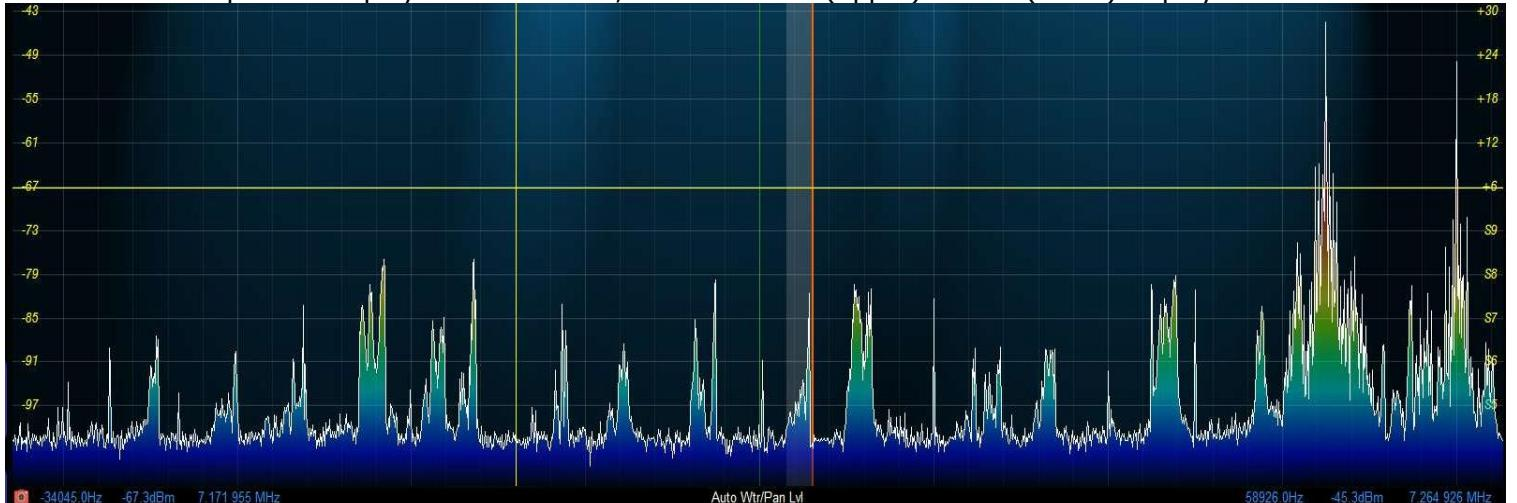

Figure 67: Cursor and Peak Position Information
There are two sets of data side by side just below the graphical display that are used to communicate cursor (left) and peak signal (right) information to the user. For each the data shown equals Offset from VFO, Signal Level and Frequency. For example, in Figure 67 below, the peak signal is offset -28742.6 Hz from the VFO frequency (14.255 MHz). The peak signal level is -92.5 dBm, and the peak signal is at 14.226257 MHz. Note that these values are fairly low resolution due to the discrete nature of the pixel display. When RX1 and RX2 displays are both showing, the cursor position read-out relates to the respective display the cursor is in, either the RX1 (upper) or RX2 (lower) display.
- In the frequency domain displays (Spectrum, Panadapter, Histogram, Waterfall), right clicking the mouse cycles through yellow crosshairs, red crosshairs (only if **SPLT** or **MultiRX** is enabled), or no crosshairs. The crosshairs span the width and height of the display (yellow cross hairs are shown in Figure 67 above).
- Together with the **AVG** control they allow easy measurement of signals on the display. For example, in Figure 67 the cursor position is offset -10219.9 Hz from the VFO frequency and is at 14.244780 MHz. The horizontal line of the crosshairs is at -96.0 dBm.
(10) MultiRX Controls